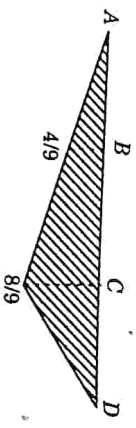

Fig. 36. ILD for  $P_{EF}$ .
- i. Consider the section 1-1 as shown in the Fig. 36. When the load is in portion AC taking moment about C, we get